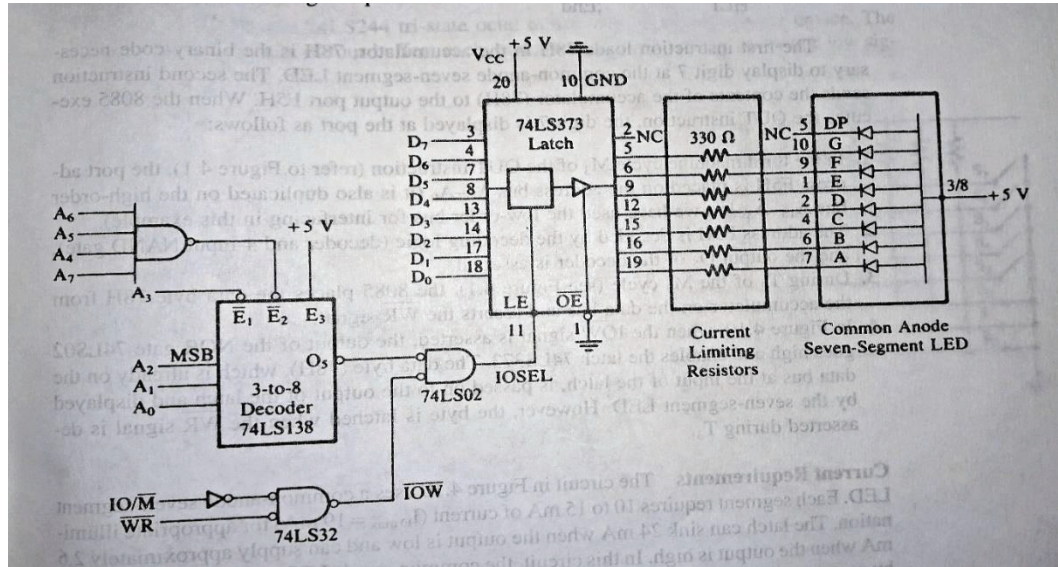

Figure 4.10:- Interfacing Seven-Segment LED
connected to DP; otherwise it is left open. The binary code required to display a digit is determined by the type of the seven-segment LED (common cathode or common anode), the connections of the data lines, and the logic required to light the segment. For example, to display digit 7 at the LED in Figure 4.10, the requirements are as follows :
4. In the Figure 4.10, when the $\overline{IOW}$ signal is asserted, the output of the NOR gate 74LS02 goes high and enables the latch 74LS 373.